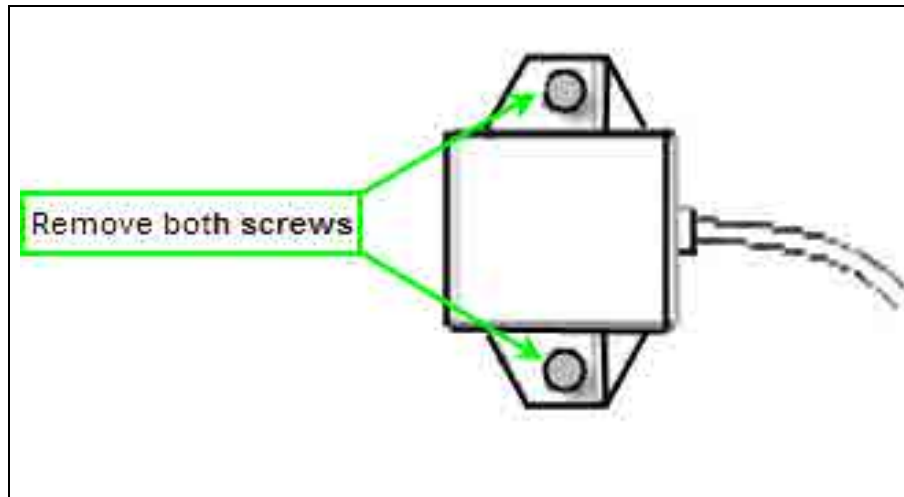

Fig.3 Removing the module
3. Using a 5/16" hex socket, unscrew the two (2) module retaining hex screws and remove the module from the vehicle (Fig.3).